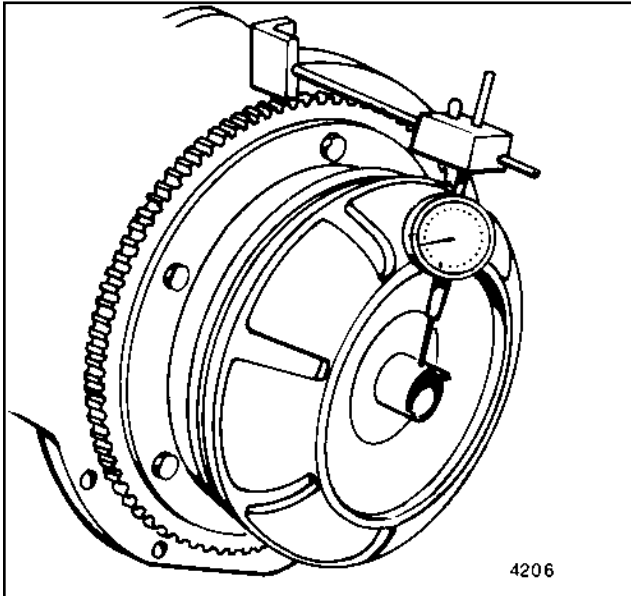

FIGURE 18. CHECKING ALIGNMENT OF TORQUE CONVERTER HUB
B. Check the alignment of the torque converter hub. Put a dial indicator in the position shown in Figure 18. Turn the flywheel and look at the dial indicator. Set the indicator on zero where the dial indicator shows the greatest movement. Turn the flywheel and read the dial indicator. The maximum reading must be 0.005 inch (0.125 mm). Bend the drive plate until the movement of the converter hub is less than 0.005 inch (0.125 mm).